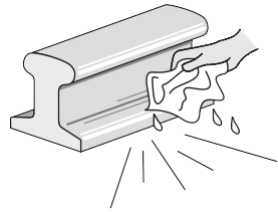

FIGURE 3
1. Clean the rail surface and conductor. Scrape off excess dirt and grease, and wipe away any remaining residue using a clean rag saturated with a railroad approved solvent. **See Figure 3.** The rail and conductor must be dry prior to welding!